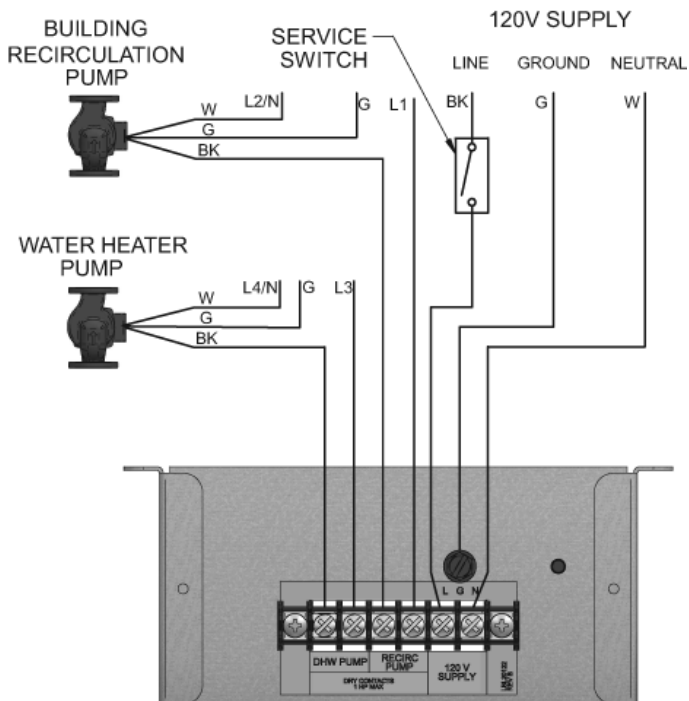

Figure 70. Line Voltage Field Wiring Connections
1. Connect 120 VAC power wiring to the line voltage terminal strip in the junction box, as shown in Figure 70.
2. Provide and install a fused disconnect or service switch (15 amp recommended) as required by the code (see Figure 70).
3. The DHW (water heater) pump is shipped loose on all XP models. Wire the water heater pump as shown in Figure 70.
4. The XP water heater is capable of controlling a building recirculation pump (field supplied). Wire the building recirculation pump as shown in Figure 70.